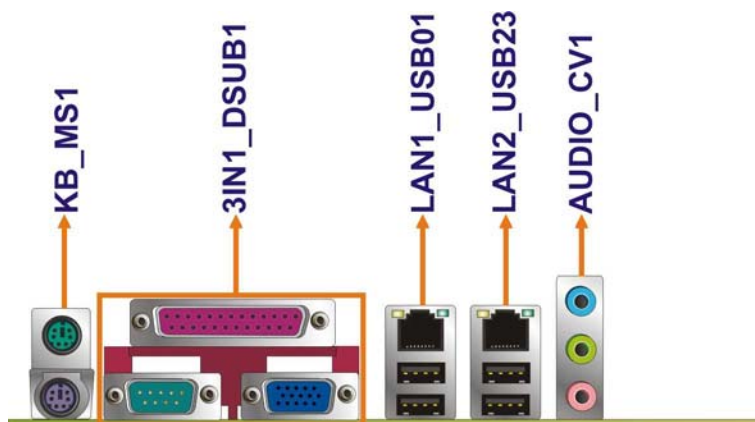

Figure 4-18: 2807940 External Peripheral Interface Connector
Figure 4-18 shows the 2807940 external peripheral interface connector (EPIC) panel. The 2807940 EPIC panel consists of the following:
CN Location:	See Figure 4-18
- CN Location:** See **Figure 4-18**
CN Location: See Figure 4-18
A 25-pin parallel port connector, a male DB-9 serial port (COM1) and a female DB-15 VGA connector are integrated into a single EPIC connector as shown in **Figure 4-18**.